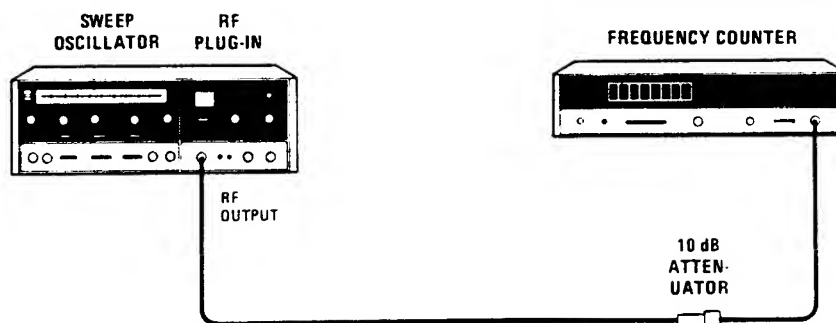

Figure 4-2.  $\Delta F$  Sweep Test Setup
- a. Connect equipment as shown in Figure 4-2.